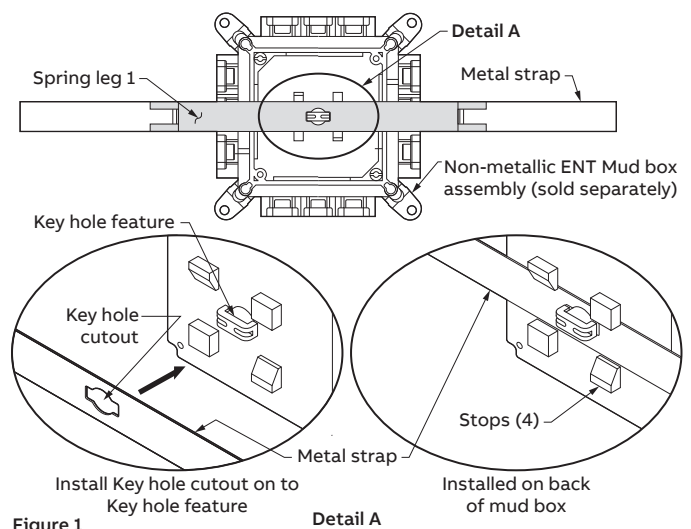

Figure 1
1. Attach metal strap to mud box (sold separately) between stops by aligning key hole cutout in Metal strap with respective feature on back of mud box (Figure 1).
2. Repeat by attaching Spring leg 1 first by installing on top of metal strap (Figure 1).